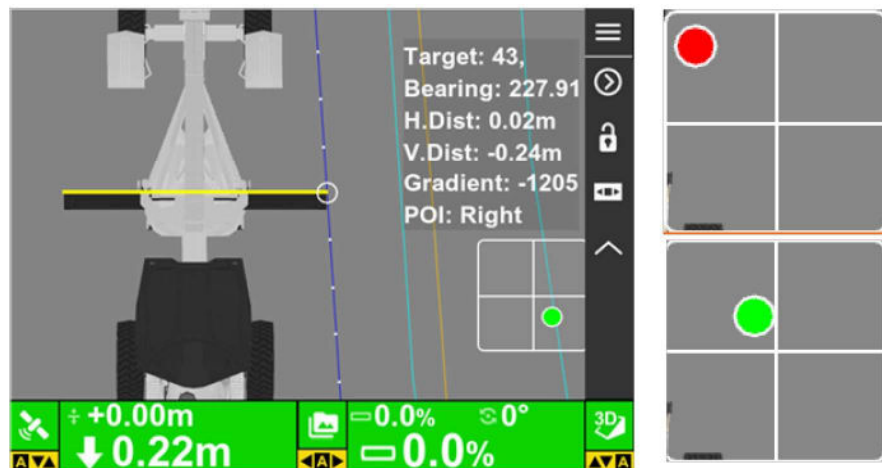

Figure 4-9: Machine Navigates to Selected Point
6. Configure the bulls-eye view settings (Figure 4-9).